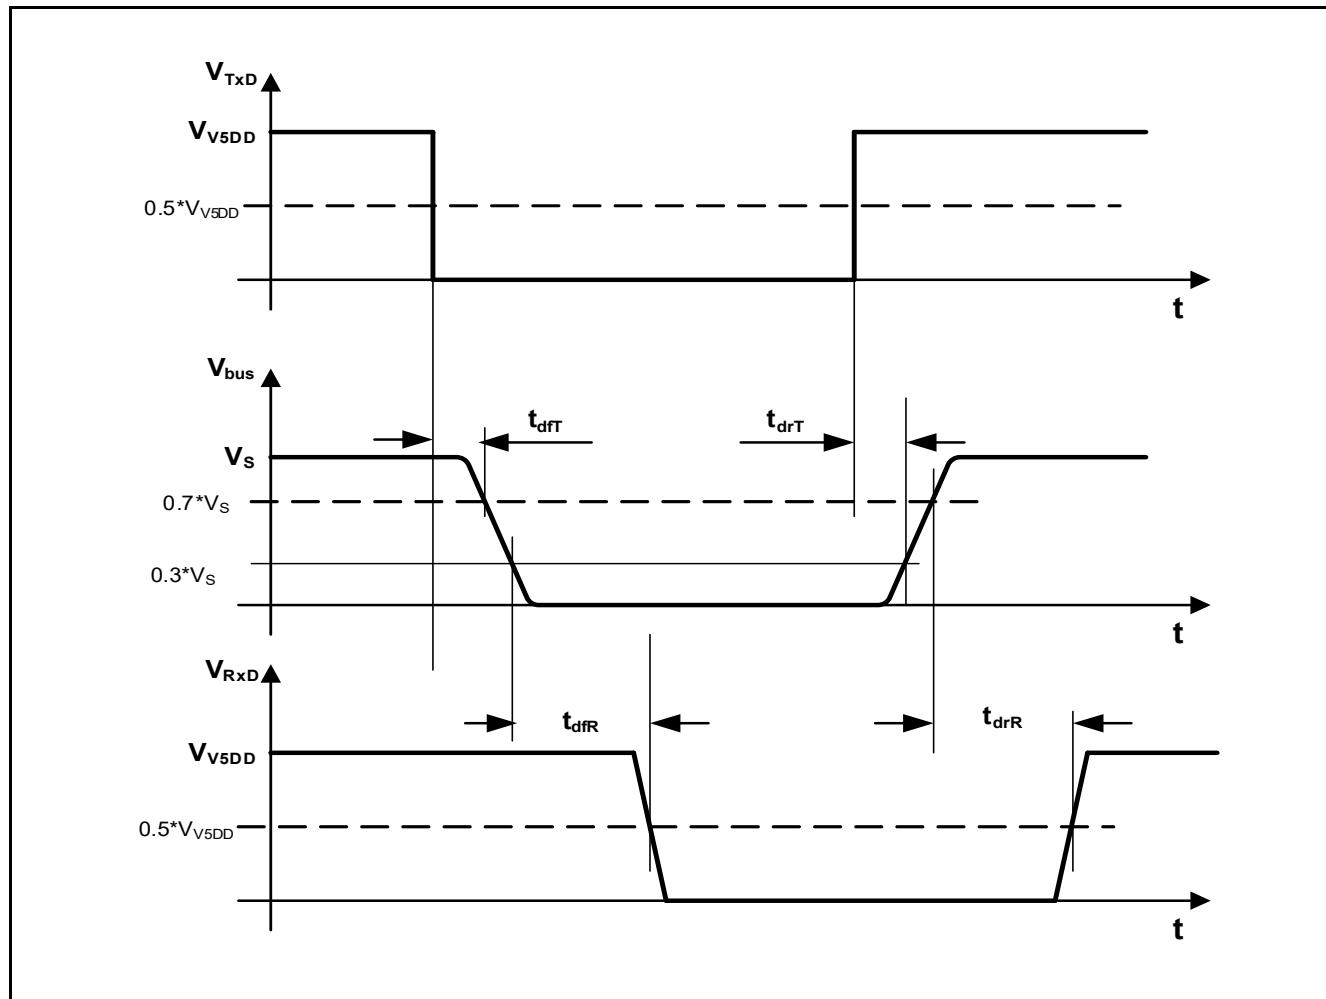

Figure 18 K-line transfer characteristics
1) For definition see Figure 18.